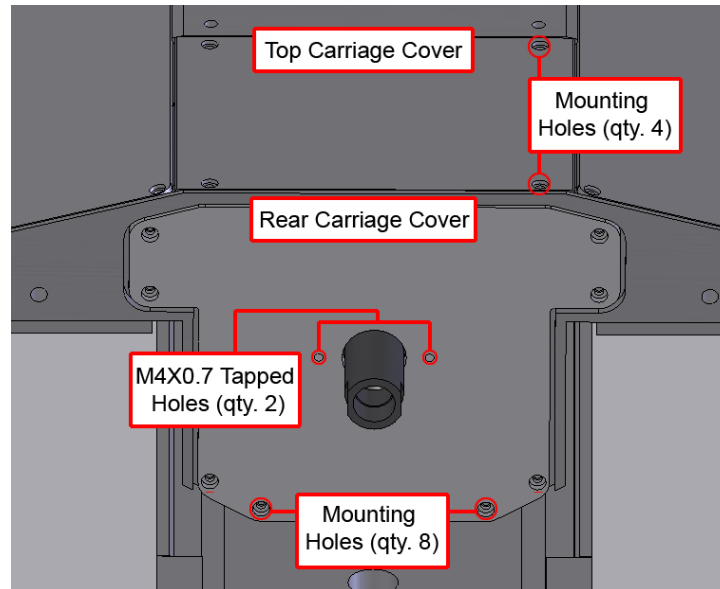

Figure 4-5: Carriage Cover Removal
Step 2: To access the rotary union assembly, remove rear carriage cover and top carriage cover located on the backside of the carriage (see Figure 4-5). It may be necessary to insert (Qty-2) M4x0.7 screws into rear cover to help with removal.